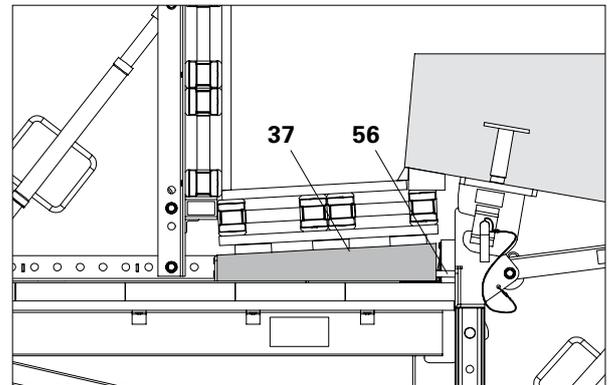

Fig. A4.01b
- Adapt Tie Rod DW 15 (56) with timbers (37). (Fig. A4.01b)